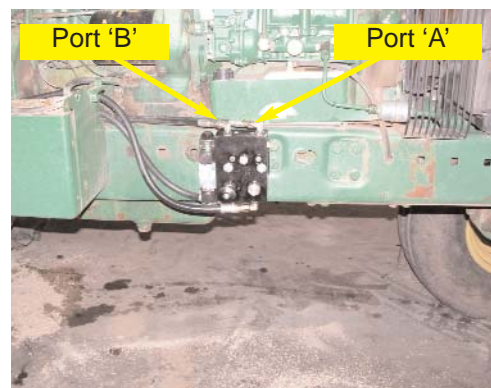

Figure 2c. Automated Steering Block (installed).
c. Mount the Automated Steering Block to the bracket using the provided hardware in group (**D**). Be sure the Automated Steering Block is mounted with the **A** and **B** ports pointing up as shown. (Figure 2c.)